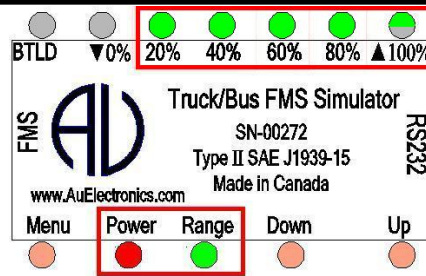

Figure 3-7 Power, Range, 20%, 40%, 60%, 80% are constant on, “▲ 100%” LED blinks, indicating data reaches 100%
- When control step value equals to 100%, the 20%, 40%, 60%, and 80% LED will be constant on. ▲100% LED blinks, as shown in Figure 3-7.